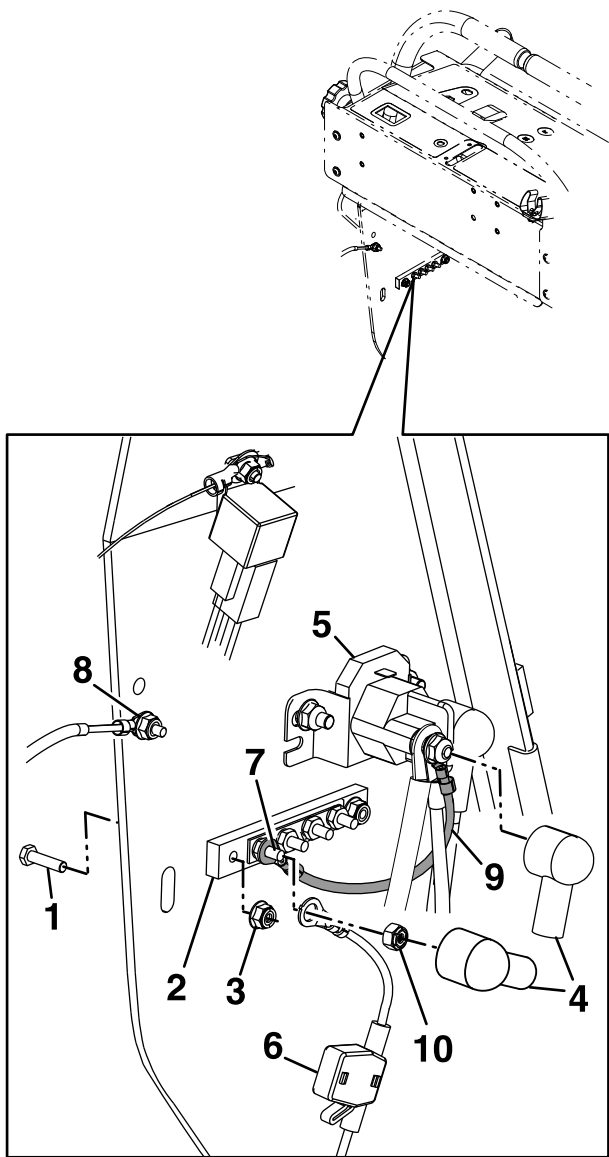

Figure 8
- For 60 Gallon Model: Mount the ground on the RH side of the tower (see item 8 in Figure 8).
- For 60 and 30 Gallon Models: Remove the nut and install one end of the jumper wire to the starter solenoid and reinstall the nut and insulator (see Figure 8).
10. For 60 and 30 gallon models, insert the other end of the jumper wire and fuse holder harness through the insulator. Place the jumper wire and fuse holder harness onto the relay post and secure with #10-32 UNF inch nut and insulator as shown in Figure 8.